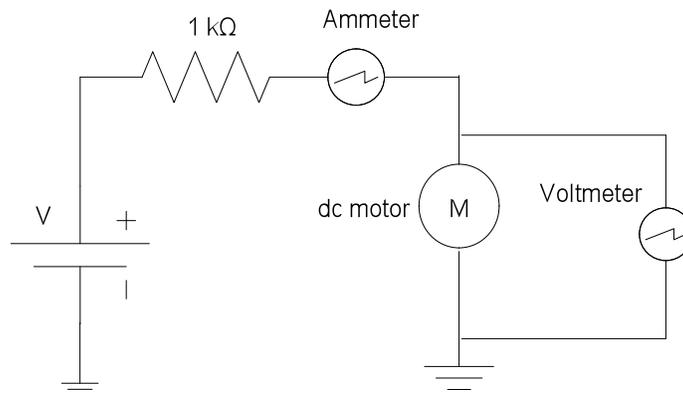

Figure 4 DC motor circuit
25. Connect the circuit as shown in Figure 4.